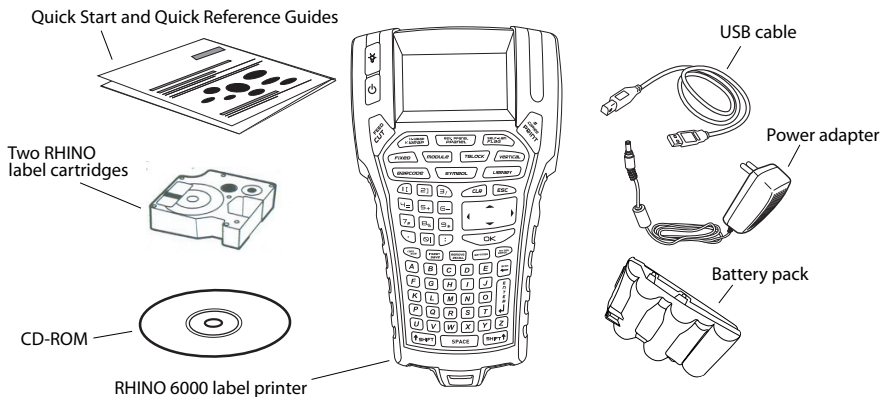

Figure 1
2. Make sure you have all the items shown in Figure 1.